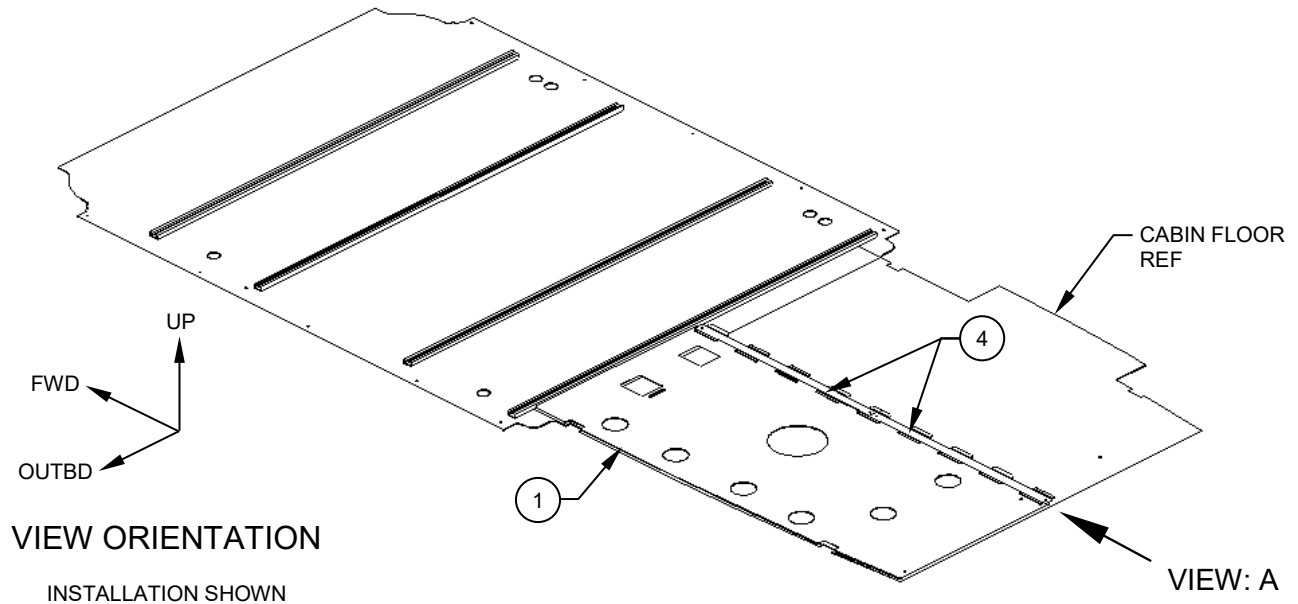

Figure 12
3. Position the LHS Panel Assy (Item 1) on the floor in its approximate position with the Velcro strips facing down as shown. Reference Figure 12.
4. Install the Retainer Strip, Assy's (Item 4) by inserting the tabs into the provided slots in the panel as shown. Reference Figures 12 & 13
5. Install the RHS Panel, Assy (Item 2) by tipping the panel on an angle and inserting the Retainer Strip, Assy (Item 4) tabs into the provided slots in the panel as shown. Install cargo door sill (Item 5) using OEM hardware. Reference Figures 12, 13 & 14.